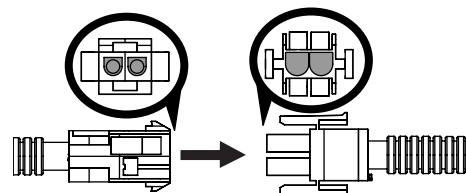

Figure 2-4
1. Connect the headlight harness/12V wiring harness to the main harness. Make sure the D-shape connectors align properly. See Figure 2-4.